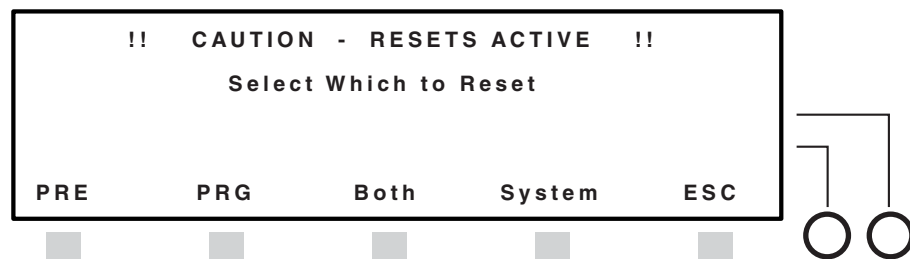

Figure 3-24 — Selecting the reset type
- From the reset submenu, select either preview reset (PRE), program reset (PRG), both preview and program reset (Both), system reset (System), or escape (ESC) to return to the previous submenu (figure 3-24).